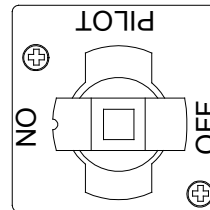

Figure 2
3. With the pilot lit, push down and slowly turn the knob to the ON position (see Figure 2 above). Once the pilot has been lit, the burner will automatically light whenever the thermostat is set above its lowest setting, or the controller calls for heat.